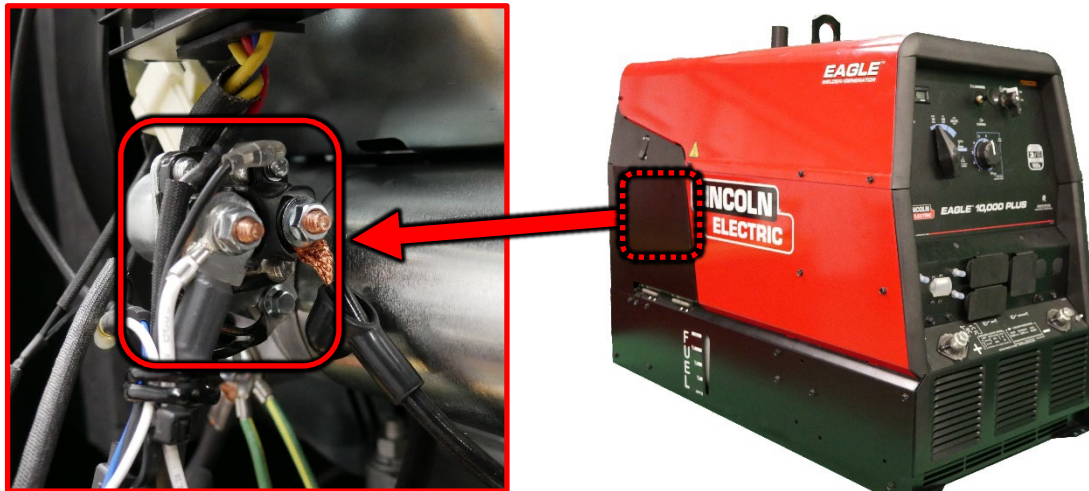

Figure F.1
1. For location of the CR1 Starter Relay refer to Figure F.1.